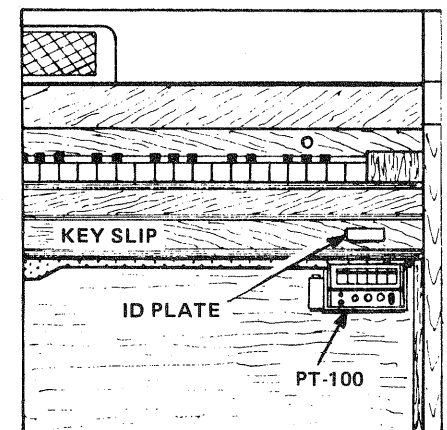

FIGURE 8-34 Identification Plate location.
Get the Identification Plate (PN 896-3028-000) place it against the Key Slip centered over the Tape Recorder as shown in FIGURE 8-34. Mark the Key Slip with an awl at the centers of the plate's screw holes. Set the Plate and awl aside.
Insert a #54 drill bit in your drill, wrap a piece of tape around it 1/4" from its tip, and drill 1/4" into the Key Slip at each awl mark. Mount the Plate to the Key Slip with two (2) 3/32" Round Hd. Slotted Screws. See FIGURE 8-34.